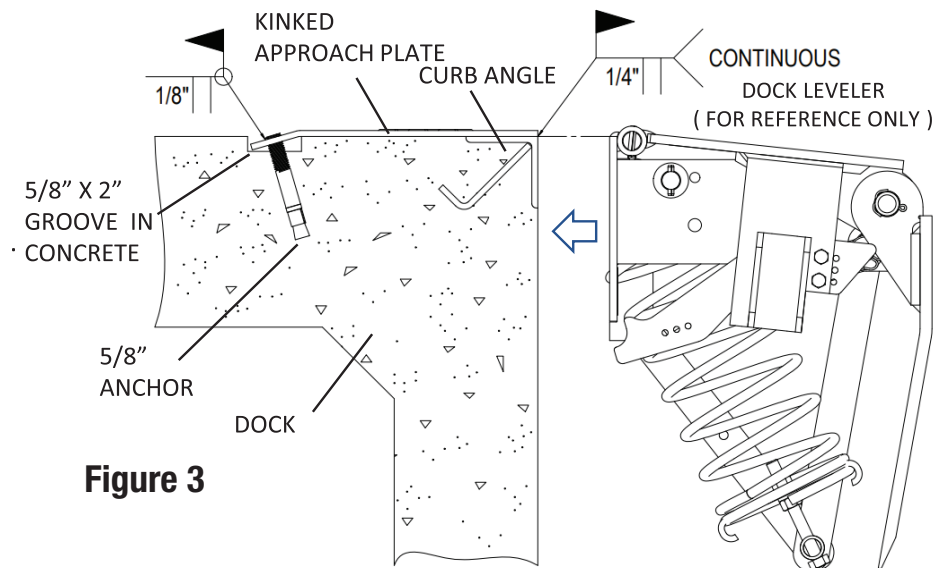

Figure 3
4. If kinked approach plate is used, mark on dock floor along full length of kinked edge of plate. (See **Figure 3**)